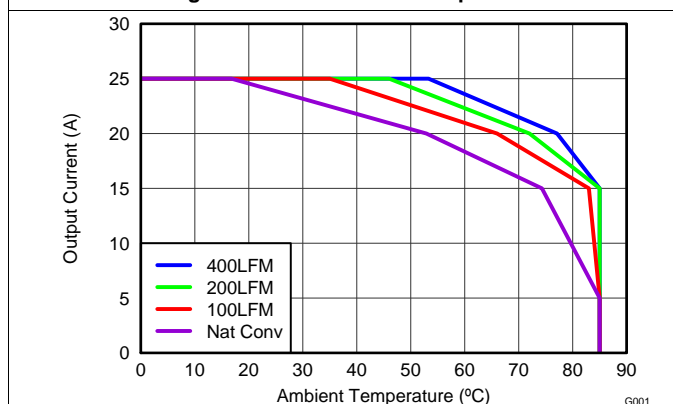
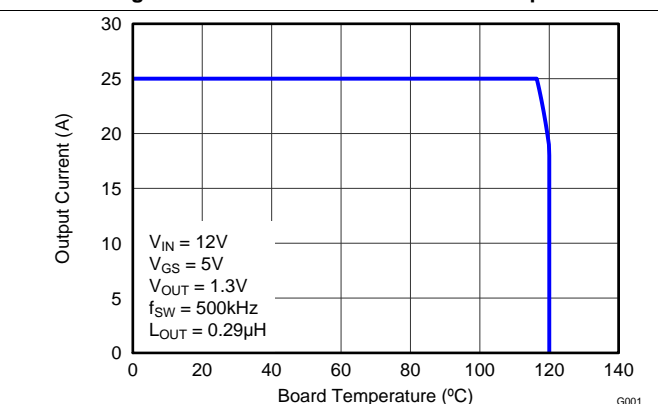

Figure 3. Safe Operating Area – PCB Horizontal Mount
Figure 4. Typical Safe Operating Area
$T_J = 125^{\circ}\text{C}$, unless stated otherwise. The Typical Power Block System Characteristic curves Figure 3 and Figure 4 are based on measurements made on a PCB design with dimensions of 4.0 inches (W) × 3.5 inches (L) × 0.062 inch (H) and 6 copper layers of 1 oz. copper thickness. See Application and Implementation for detailed explanation.
$T_J = 125^\circ\text{C}$, unless stated otherwise. The Typical Power Block System Characteristic curves Figure 3 and Figure 4 are based on measurements made on a PCB design with dimensions of 4.0 inches (W) x 3.5 inches (L) x 0.062 inch (H) and 6 copper layers of 1 oz. copper thickness. See Application and Implementation for detailed explanation.
The SOA curves in the CSD87588N data sheet provide guidance on the temperature boundaries within an operating system by incorporating the thermal resistance and system power loss. Figure 3 to Figure 4 outline the temperature and airflow conditions required for a given load current. The area under the curve dictates the safe operating area. All the curves are based on measurements made on a PCB design with dimensions of 4 inches (W) x 3.5 inches (L) x 0.062 inch (T) and 6 copper layers of 1 oz. copper thickness.